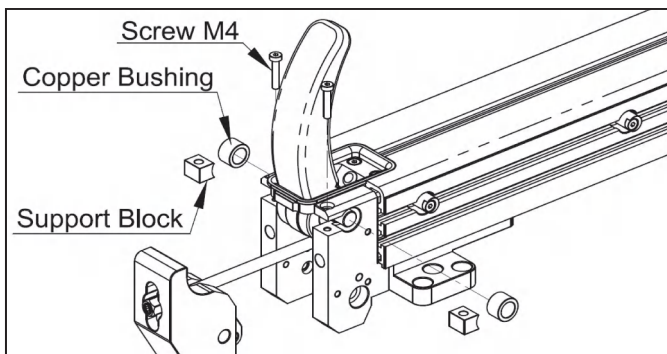

Fig. 9-6
(6) Remove two M4 screws, two support blocks, and two copper bushings, as shown in Fig. 9-6.